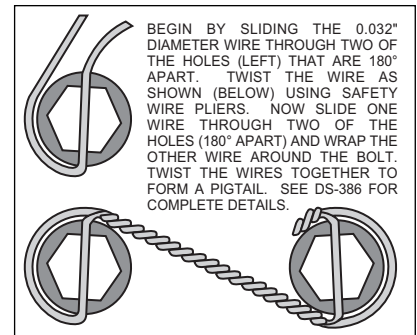

Figure 4. Safety Wire Diagram
- Pack the small outer bearing cone (18) with high temperature disc brake bearing grease and install into front of hub (10). Slide the hub/rotor assembly (10 and 13) with outer bearing cone (18) onto the spindle. Secure using spindle washer (19), stock adjusting nut and nut locking device. Adjust bearings per Original Equipment Manufacturer (OEM) specifications.
- Install the dust cap (20) and o-ring (21) onto the hub (10). Friction created by the o-ring (21) on the dust cap (20) keeps it from unscrewing.
- With the larger I.D. side of the rotor (13) facing away from the hat (14), bolt rotor (13) to hat (14) through the backside of the rotor using washers (15) and bolts (16). Torque bolts (16) to 85 **in-lb**. Safety wire bolts (16) using standard 0.032 inch diameter stainless steel safety wire as shown in Figure 4. Please refer to Wilwood's data sheet DS-386 (available at [www.wilwood.org/ds386.pdf](http://www.wilwood.org/ds386.pdf)) for complete safety wire installation instructions.